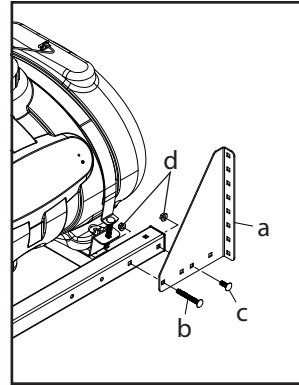

Figure 2: Installing boom mounting angles
1. Install the boom mounting angles (a) on the sprayer frame in the upright position using one 3/8" x 3" carriage bolt (b), one 3/8" x 1" carriage bolt (c), and two 3/8" flange nuts (d) for each angle, as shown (Figure 2). The plastic cap must be removed to bolt the 3/8" x 1" bolt to frame, the bolt does not go through both frame walls. This bolt is in the base kit, not the trailer kit.